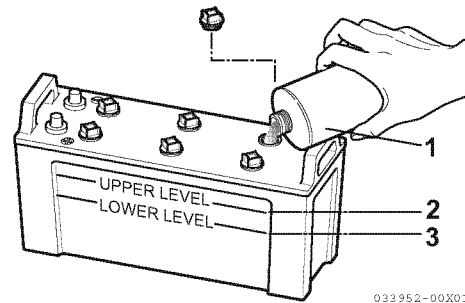

Figure 5
1. Remove the yellow oil filler port cap from filler port (1, **Figure 5 on page 26**). Remove the drain plugs (both in the right and left) in the lower portion of the oil pan and drain the engine oil.
4. If the level is lower than the minimum, fill level (3, Figure 5), fill with distilled water (1, Figure 5) (available in the grocery store) up to the upper limit (2, Figure 5) of the battery.